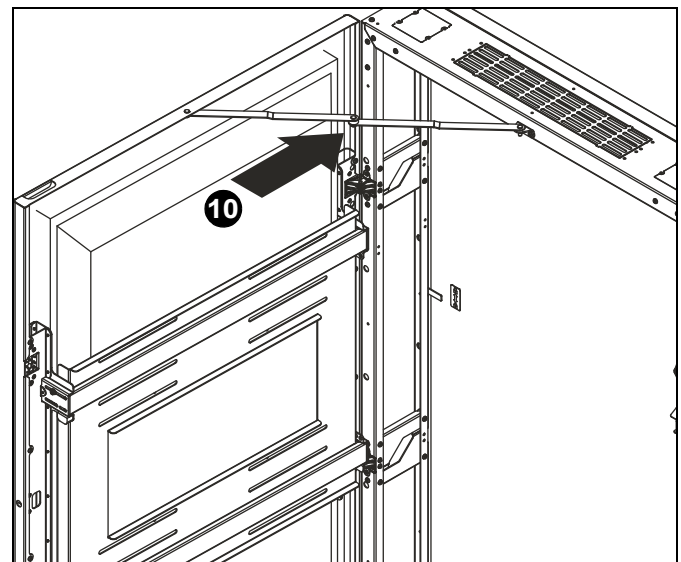

Figure 13
10. Push door bracket at top of kiosk to assist in closing kiosk door. (See Figure 13)